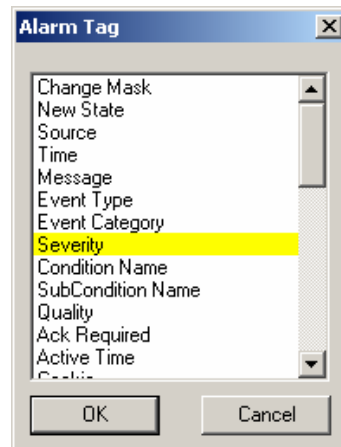

Figure A.39. Alarm Attributes for Use in Filters
6. Select **Severity** from the **Alarm Tag** window, as shown in **Figure A.39**, and then click **OK**. Note that the filter wizard then inserts into the Expression Editor workspace the necessary filter “code” of: **{{Severity}}**